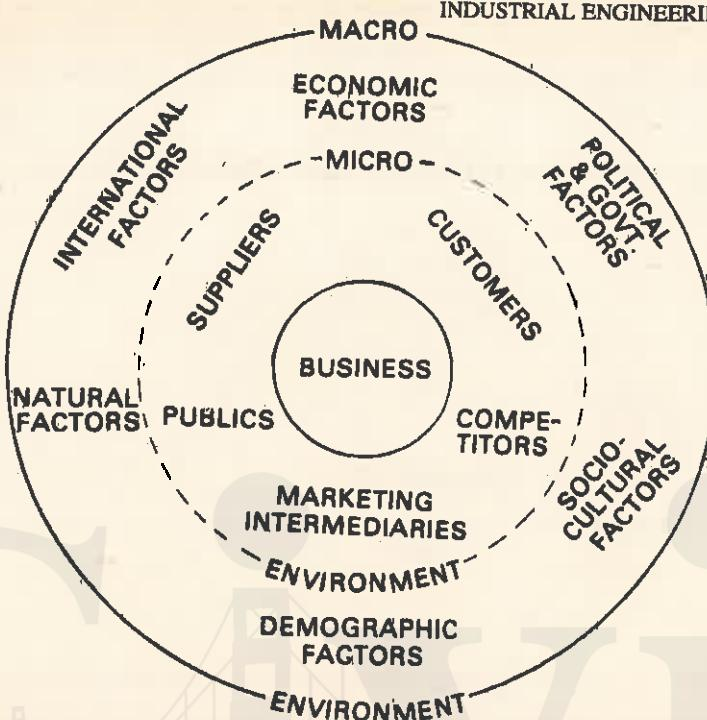

Fig. 37.2 Constituents of business environment
- (2) These environmental factors are *dynamic*. They keep on changing as time passes and so does business.
- (3) A particular business firm, by itself, may not be in a position to change its environment. But along with other firms, business will be in a position to mould the environment in its favour, to a large extent.
- Fig. 37.2 shows constituents of business environment.
— The **micro environment** consists of the factors of the firm's *immediate environment*, (Fig. 37.2).
— The **macro environment** consists of larger societal forces that affect all the factors in the company's micro environment, (Fig. 37.2).